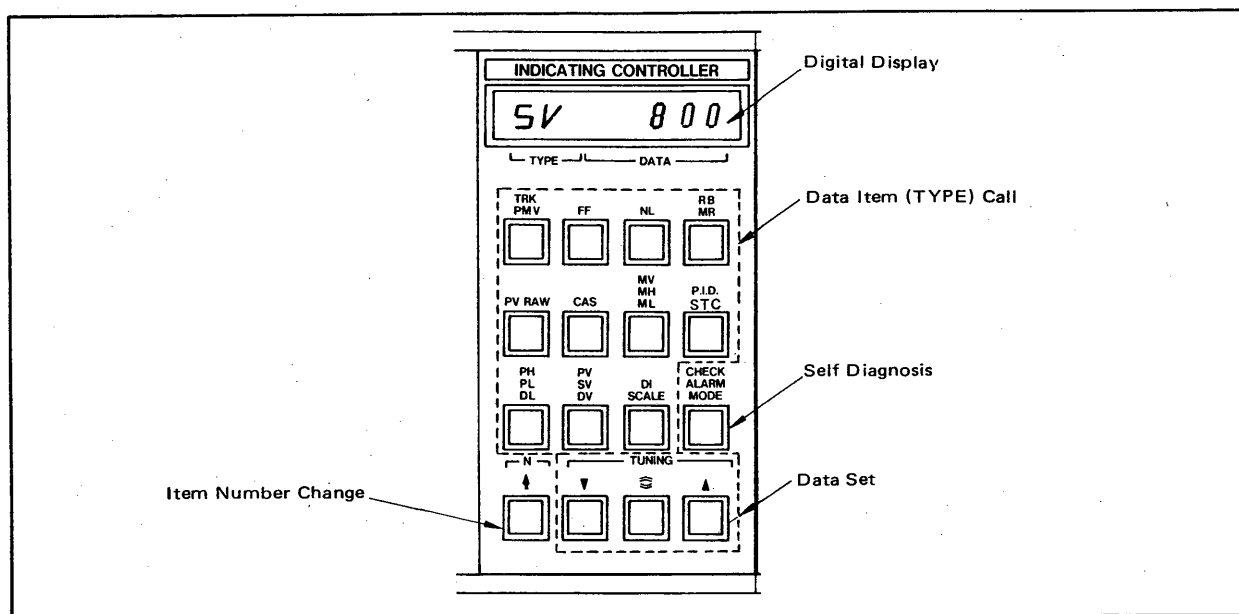

Figure 5-5. Keyboard.
■ Operations of Keyboard (See Figure 5-5).
When the desired data item key is pressed, the corresponding key (TYPE) and data can be displayed (see Figure 5-5). Several data items are assigned to each key and data items are changed in turn whenever the key is pressed.
- 1) Call data items with eleven keys (see Figure 5-5).
(6) Initial (default) Values.